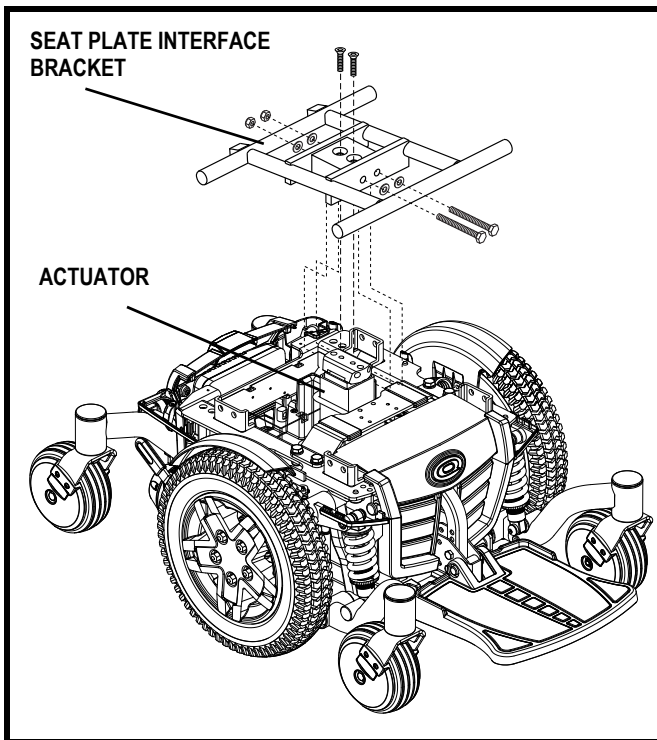

Figure 14. Power Elevating Seat Actuator
1. Place the seat plate interface bracket onto the actuator. See **figure 14**.